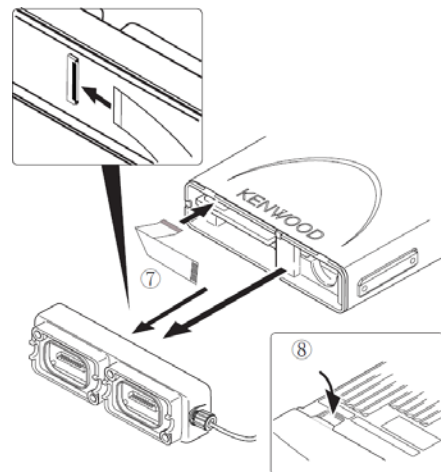

Fig. 2-2
Step 4: Insert the flat cable that was removed in step 2 above into the connector (J3) of the interface unit of the **Dual Mobile Head Adapter** ⑦.
Step 5: Fit the **Dual Mobile Head Adapter** with four tabs onto the front of the chassis ⑧ as shown in Figure 2-2.